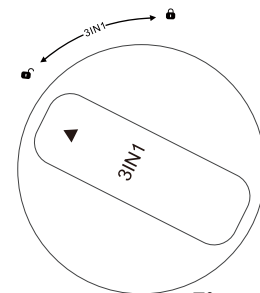

Figure 4
2. Insert the 3IN1 filter cartridge in upper hole, the triangle icon on top of filter cartridge should be pointed at the icon  **figure 4**.